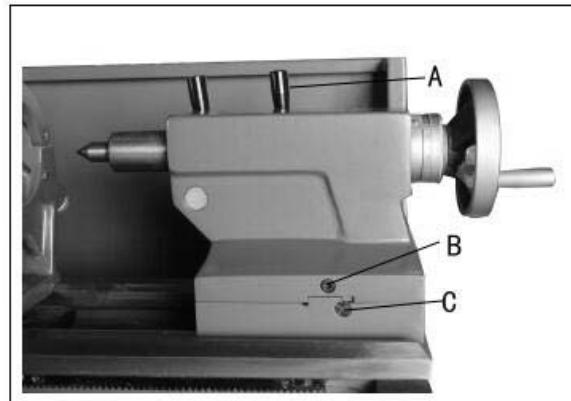

Figure 24
If the handle (A, Fig. 24) will not lock the tailstock, follow the procedure below :
- Lock tailstock in position by raising locking handle (A, Fig. 24).
- Alternately loosen and tighten two hex socket cap screws (B, Fig. 24).
Take up play in the tailstock by tightening two gib screws (C, Fig. 24) on either side of the tailstock base.